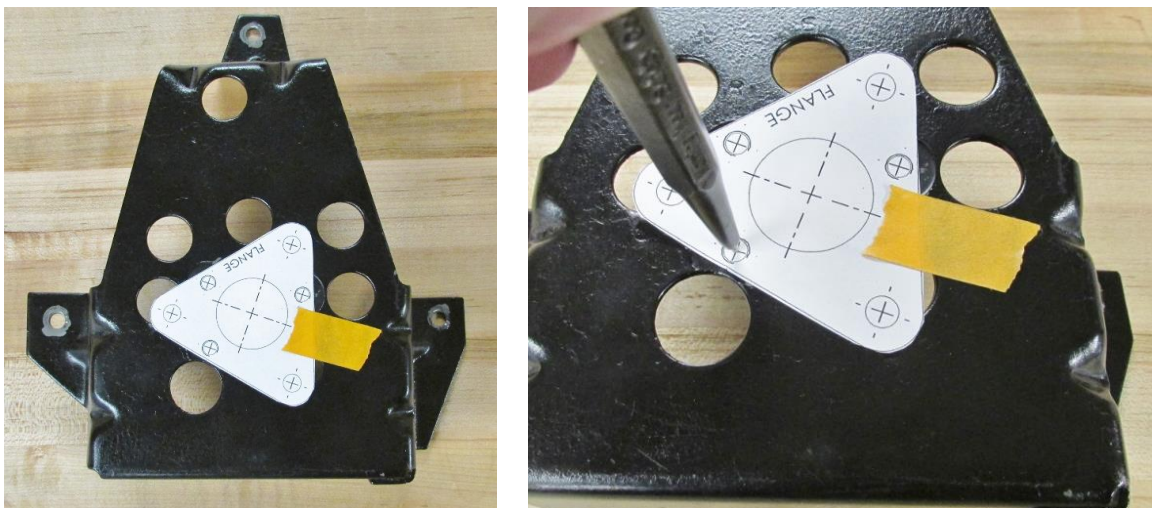

Figure 4 – Transfer Punch Bracket
- Use a center punch and locate the center of the three smaller holes to the bracket (Figure 4). Remove the template from the bracket.